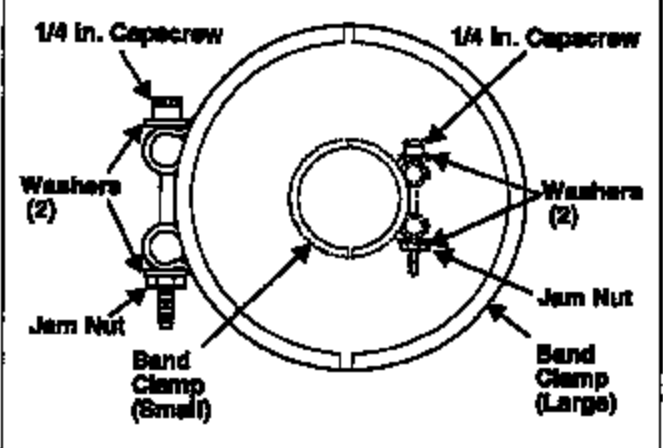

Figure 2. Rear Reinforcing Collar
8. See Figure 2. Position rear reinforcing collar halves on left and right sides of rear shock. Make sure compression adjusting dial is aligned with and visible through opening on collar.
16. See Figure 2. Position warning decal on rear reinforcing collar behind large band clamp.